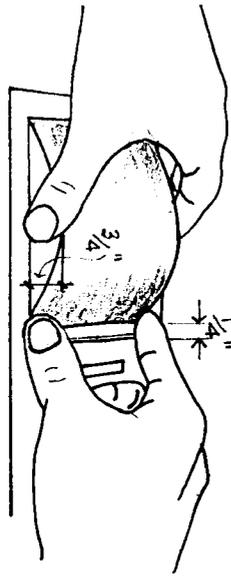

Fig. 5
5. Slide the left index (or middle) finger and thumb up along the longitudinal edges of the film and hold the film up at the middle so that the film remains arched as shown in Fig. 5. At this point, the arched top of the film should be about 3/4 inch high.
6. Press the right corners of the film down until the film and the index finger and thumb touch **INSIDE** corners of the right inner window frame (F). At this point the corners of the film should be about 1/4 inch away from the corners of the windows as shown in Fig. 5.
7. Now, **GENTLY** slide the right corner of the film under the index finger and thumb by slowly flattening the arched film. At this point the right edge of the film should be tucked under the right inner window frame (F) and the entire film should be securely held within the Film Retainer. If the film is not loaded correctly, you will feel the sharp corner(s) of the film, and also the Cover Envelope will not close.